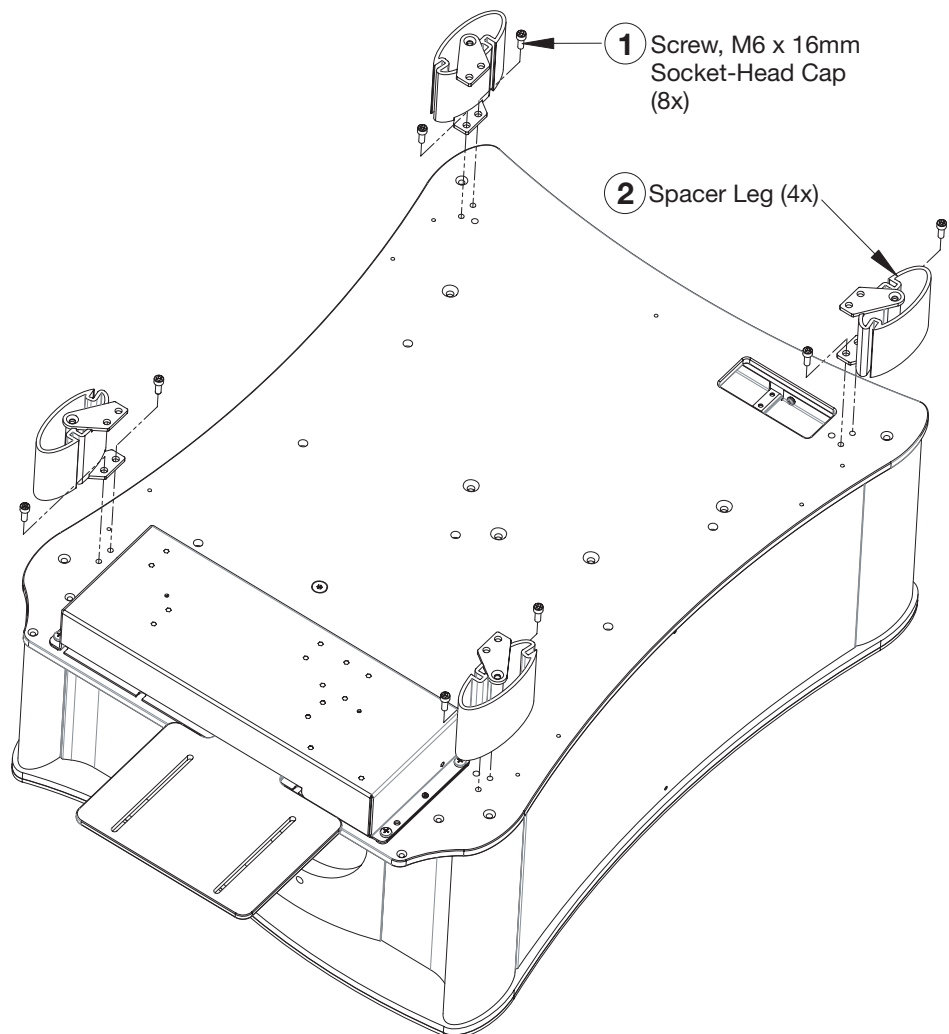

Figure 3-7. Attaching the Spacer Legs to the Top Projection Unit
Using a hex wrench and eight (8) of the supplied, M6 x 16mm socket-head cap screws, attach the spacer legs to the top projection unit as shown in Figure 3-7.